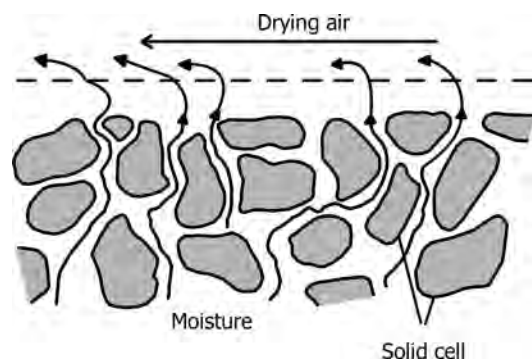

FIGURE 18.24 Movement of moisture during drying of porous materials.
- > Figure 18.24 illustrates movement of moisture through porous materials.